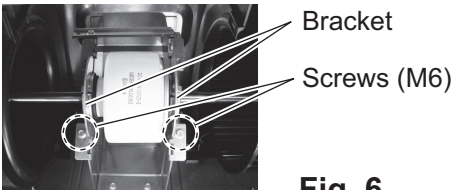
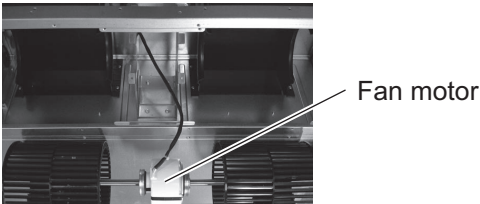

Fig. 6
Fig. 7
6. Remove the screws (M6 x2 locations: Fig. 6) fixing the fan motor. It is recommended that a nutdriver (8mm) be used.
7. Remove the bracket (Fig. 6) and then remove the fan and fan motor (Fig. 7).